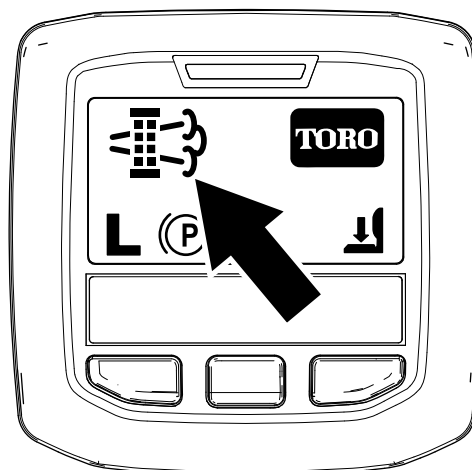

Figure 49
- When the engine computer requests either a parked regeneration or a recovery regeneration, the regeneration request icon (Figure 49) displays in the InfoCenter.